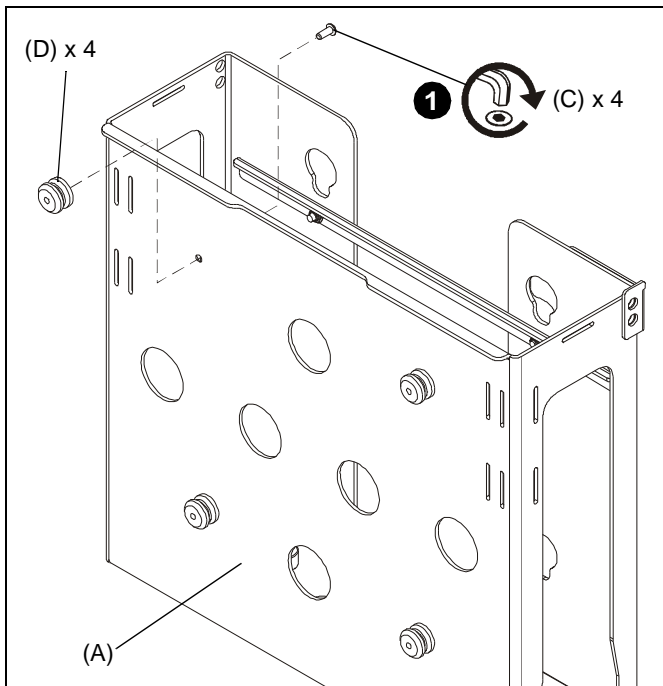

Figure 1
1. Install four mounting buttons (D) to CPU holder (A) using four 10-24 x 1/2" flat head cap screws (C), and 1/8" hex wrench (E). (See Figure 1)